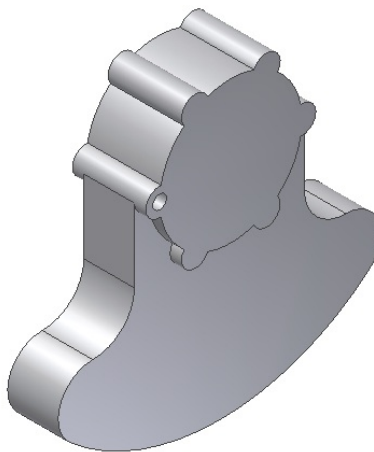

Figure 6-136 Model after creating the hole
- Create one of the holes on the front face of the second feature and then create a circular pattern of this hole, refer to Figures 6-136 and 6-137.
4. Modify the value of the diameter of the hole in the preview window to **6**. Choose **OK** to exit the dialog box. The model after creating one of the holes is shown in Figure 6-136.